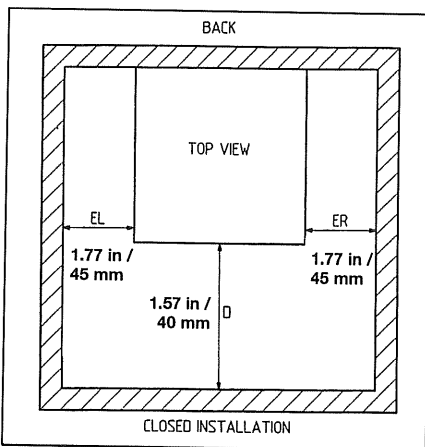

Fig. 16
3.5 FLUE TERMINAL LOCATION - Fig. 16
3.5 PLACEMENT DU TERMINAL DE LA BUSE - Fig. 16